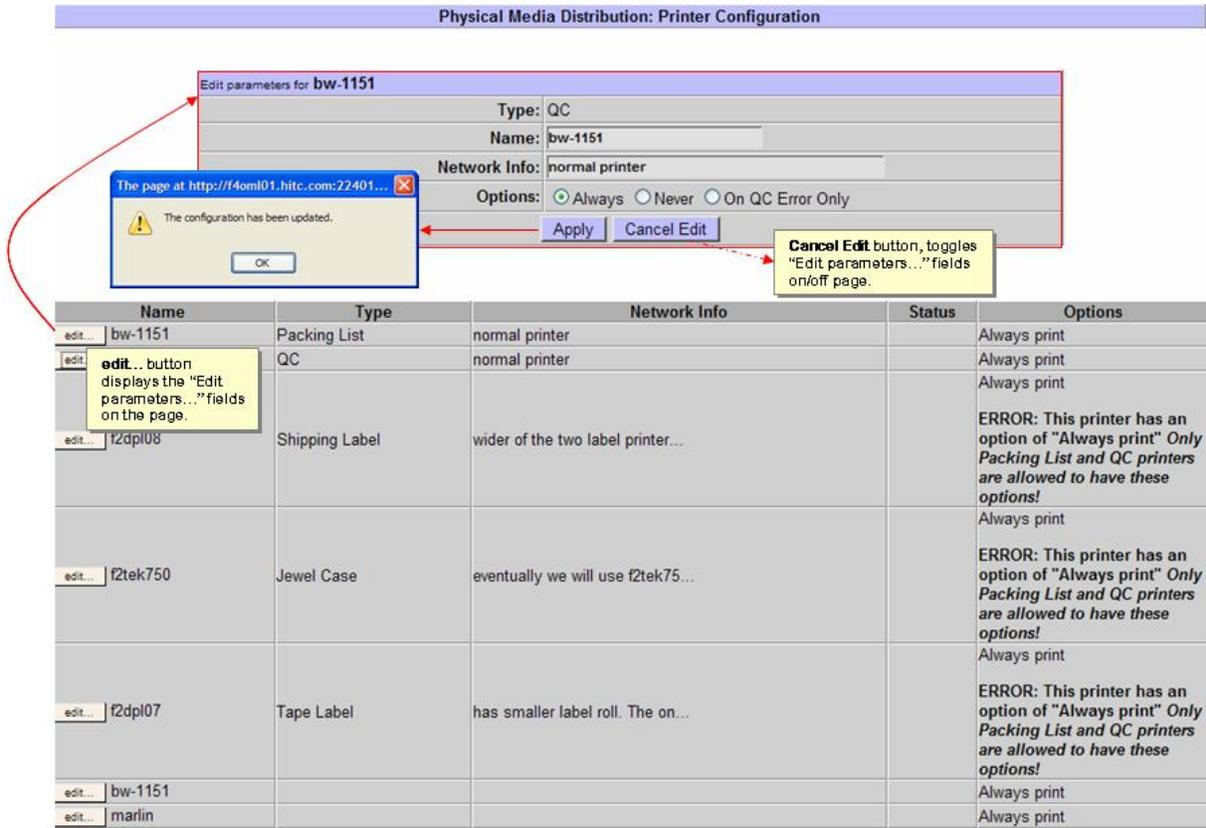

Figure 15.12-19. PMD Printer Configuration Page
The Printer Configuration page handles the configuration of printers used in physical media distribution. Printer can be “added” and their parameter can be “edited” on this page. The **PMD Printer Configuration** page (Figure 15.12-19) displays the following information for all currently configured printers:
- 2 Click **Printer Configuration** submenu option to display the **Physical Media Distribution: Printer Configuration** page (Figure 15.12-19).